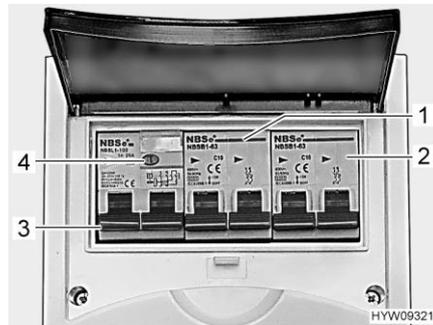

Fig. 107 Safety cutout and FI-switch (230 V fuse box)
A fault current protection switch (FI-switch) (Fig. 107,3) in the fuse box protects the complete vehicle from fault current (30 mA).
The downstream safety cut-out (10 A) (Fig. 107,1) secures the 230 V sockets, the transformer/rectifier, the auxiliary charging unit and the refrigerator.
For vehicles with special equipment, e.g. roof air conditioning unit, the device is protected by an additional safety cut-out (16 A) (Fig. 107,2).
- When the vehicle is connected to the 230 V power supply, press the test button (Fig. 107,4). The fault current protection switch (FI-switch) must be activated.